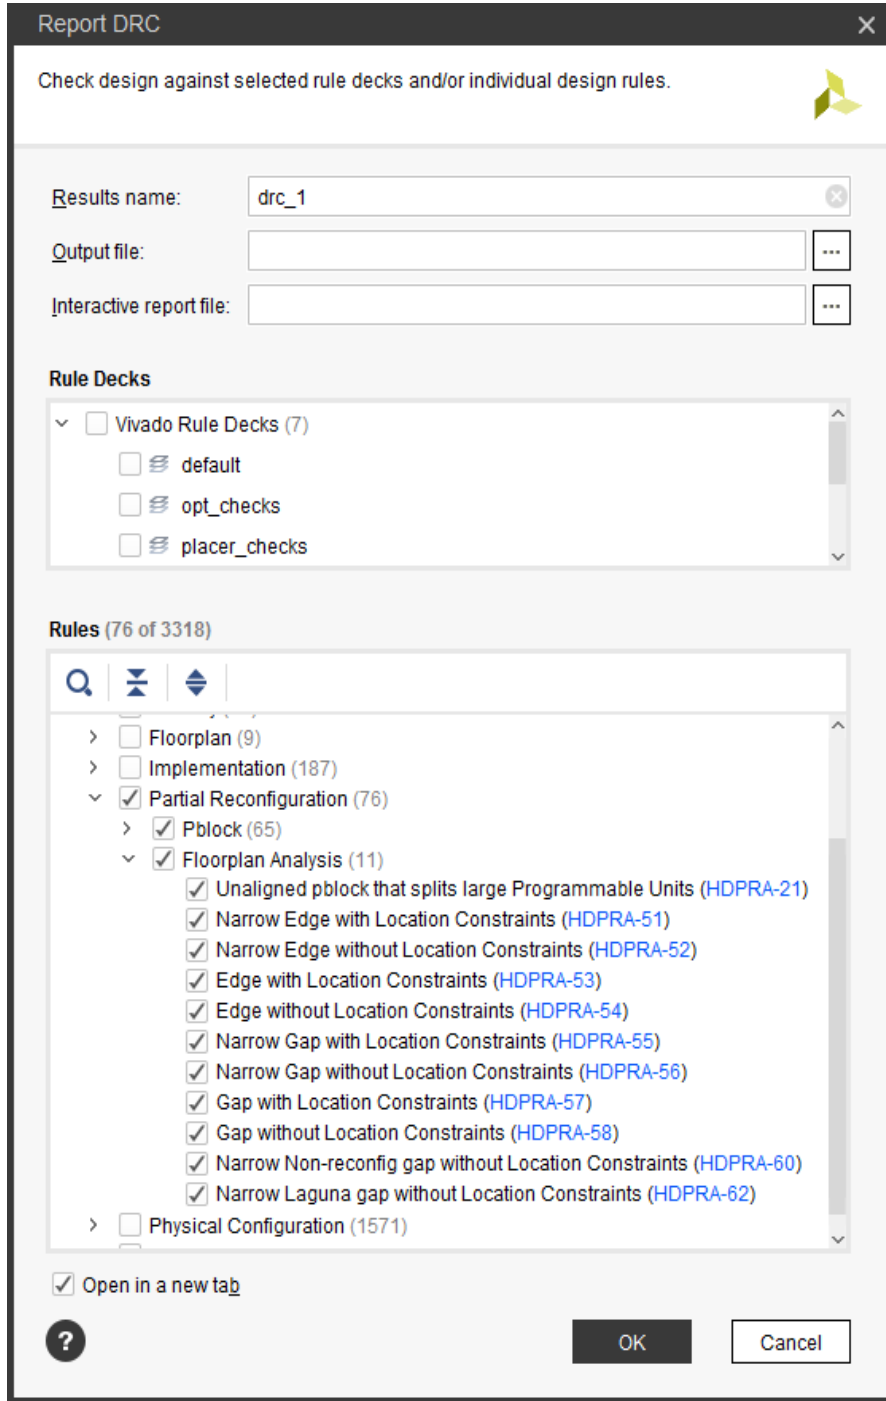

Figure 3-1: Partial Reconfiguration DRCs in the Vivado IDE
4. Design rule checks (DRCs) can be issued to validate the floorplan and other design considerations for the in-memory configuration. To run, select **Reports > Report DRC** and ensure the Partial Reconfiguration checks are present (see Figure 3-1, page 34). Note that if `HD.RECONFIGURABLE` has not been set on a Pblock, only a single DRC is available, instead of the full complement shown below.